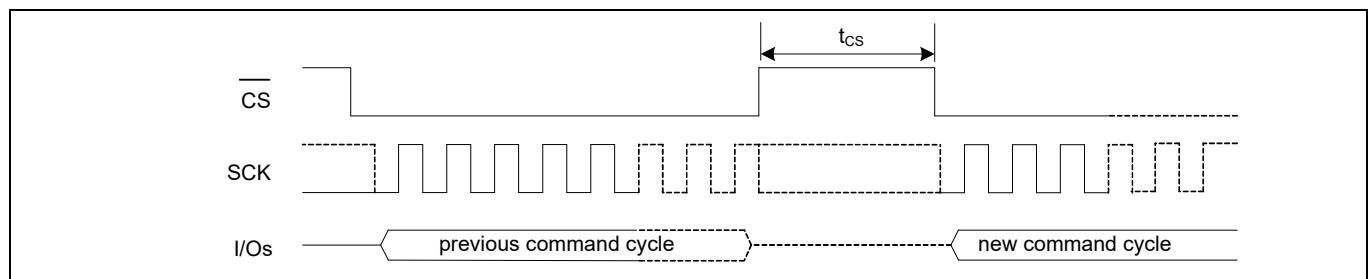

Figure 116 Chip deselect (\overline{CS} HIGH) - t_{CS} timing
24. t_{CS} is the minimum chip deselect (\overline{CS} HIGH) time before the new command cycle starts in a specific SPI mode (SPI, DPI or QPI). This parameter ensures that previous operation is successfully completed before the host starts a new command cycle. Refer to **Figure 116**.
24. t_{CS} is the minimum chip deselect (\overline{CS} HIGH) time before the new command cycle starts in a specific SPI mode (SPI, DPI or QPI). This parameter ensures that previous operation is successfully completed before the host starts a new command cycle. Refer to Figure 116.
28. t_{CS} is the minimum chip deselect (\overline{CS} HIGH) time before the new command cycle starts in a specific SPI mode (SPI or QPI). This parameter ensures that previous operation is successfully completed before the host starts a new command cycle. Refer to **Figure 116**.